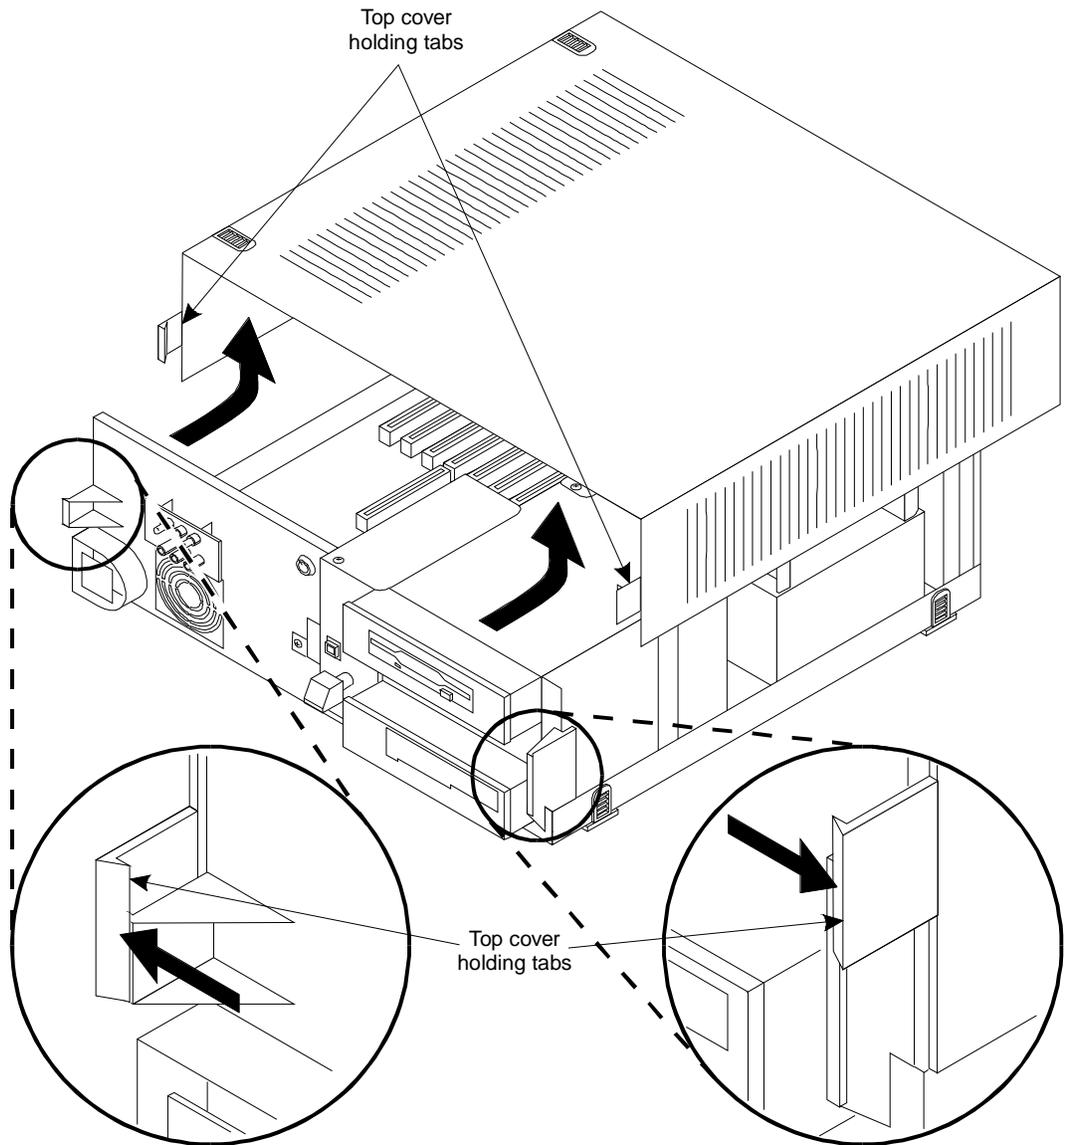

Figure 5-2. Removing the Top Cover on the MAP/5
This procedure assumes that you have already performed a shutdown of the system and removed the front panel. Refer to Figure 5-2 and follow the steps below to remove the top cover:
2. Press the holding tabs outward while pushing the top cover away from you. See Figure 5-2.